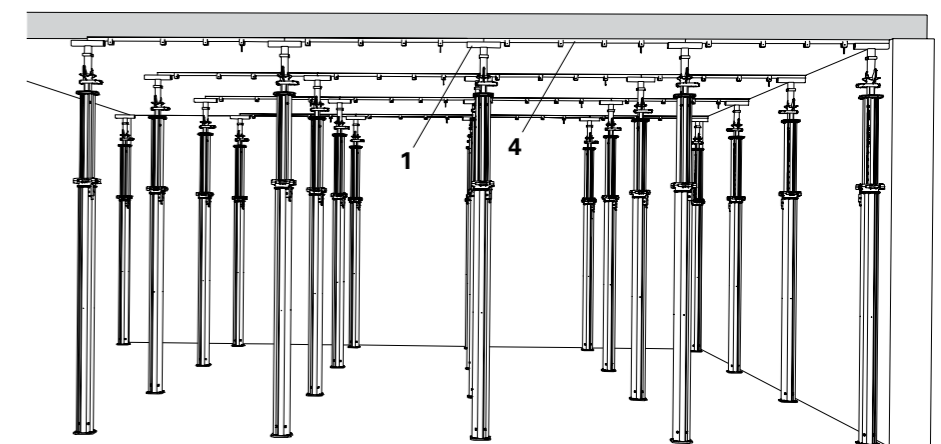

Fig. A12.05
Only Drophead Props (1) with Cover Strips SAL (4) remain standing. (Fig. A12.05)